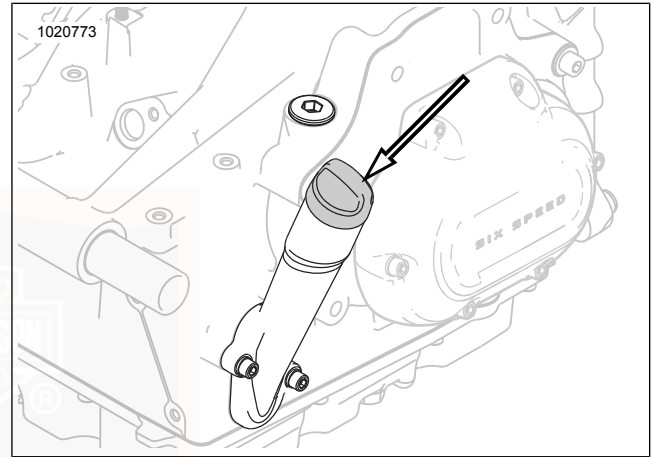

Figure 50. Engine Oil Filler Plug
2. See Figure 50. Check engine oil level.
3. See Figure 50. Check oil level.